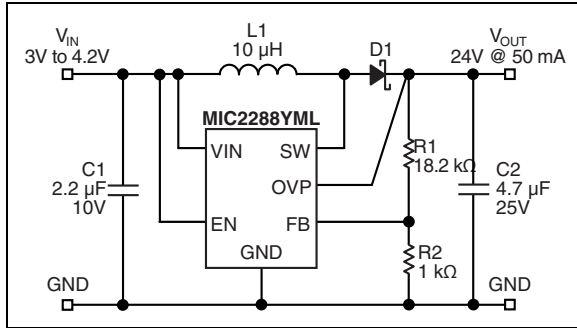

FIGURE 6-5: 3.0V to 4.2V V_{IN} to 24 V_{OUT} @ 50 mA.
- Updated part number C2 (Figure 6-5).